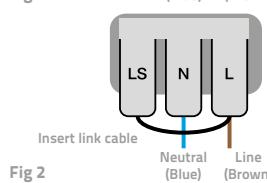

Fig 2
- For maintained operation please wire up the fitting as shown in fig 2.